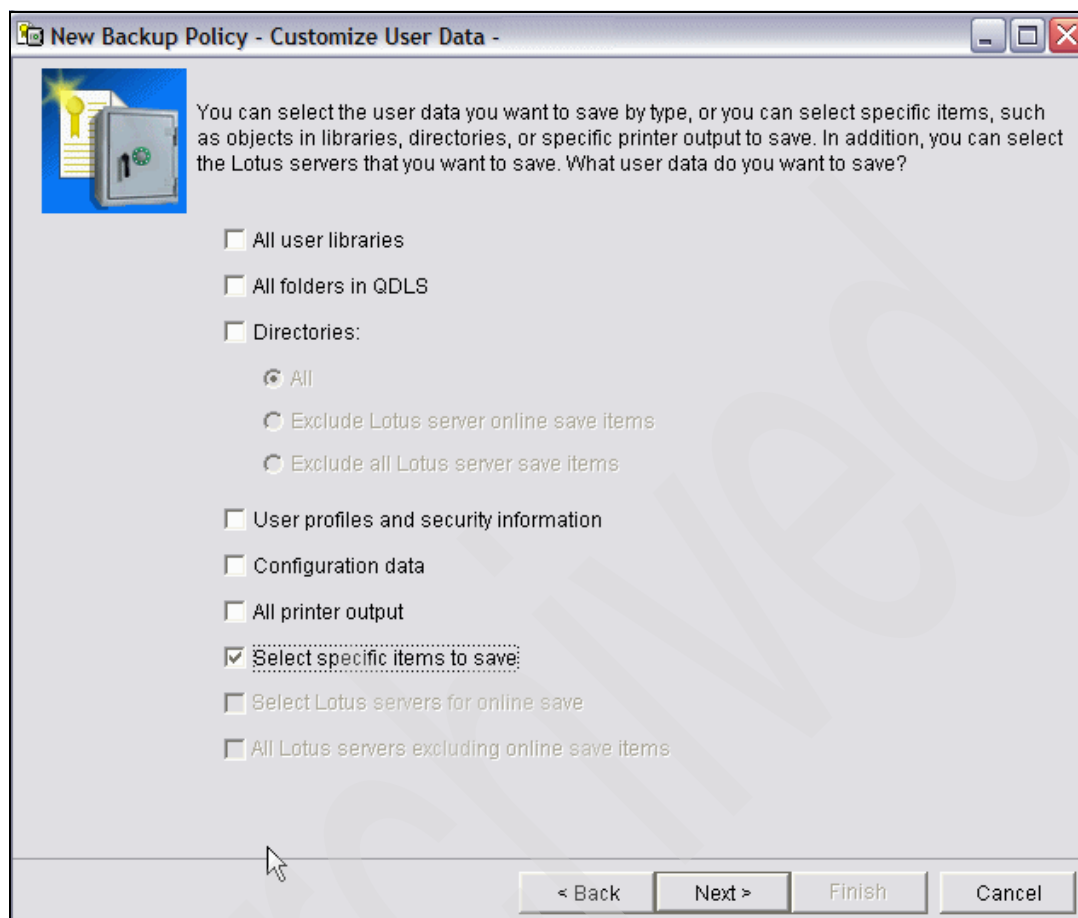

Figure 7-17 Customize user data
4. The Customize user data window shown in Figure 7-17 on page 349 appears. This is a pick and choose concept. Choose **Select specific items to save**, and click **Next**.